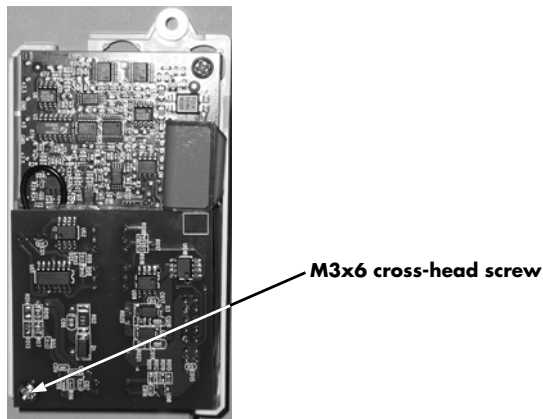
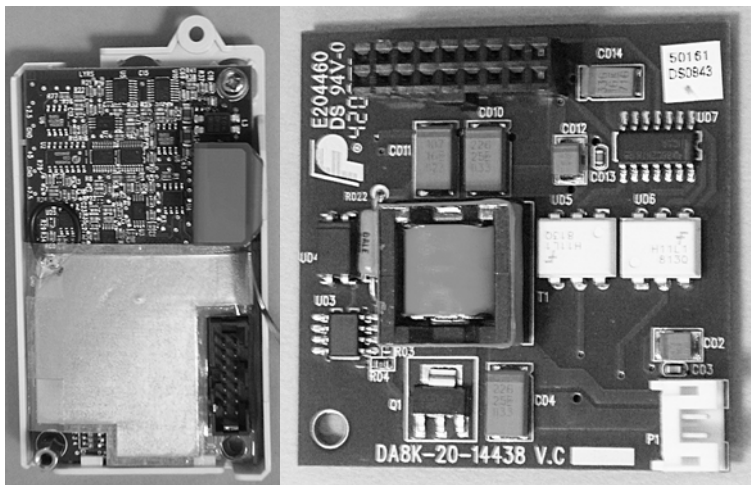

FIGURE 4-33 Remove one (1) M3x6 cross-head screw.
FIGURE 4-34 Nellcor SpO₂ board and isolated power supply.
1. Remove the M3x6 cross-head screw (as shown in FIGURE 4-33) to separate the SpO₂ module from its isolated power supply (as shown in FIGURE 4-34).